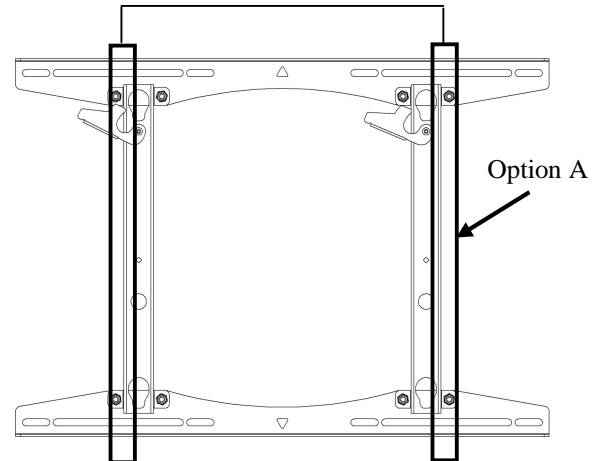

Figure 5. Mounting Holes – 16" Apart on Center (Option A)
1. Holding the PST against the wall, select the pair of mounting holes that best suits your situation (see Figures 5, 6, and 7).
2. Depending on your situation, install the lag bolts (50) and washers (60) into the pilot holes previously drilled, as described below.
- **Option A.** Install four 5/16" x 2-1/2" lag bolts (50) and four 5/16" washers (60) (two top and two bottom) into the mounting holes, centering the PST on dual wood studs 16" apart on center as shown in Figure 5.